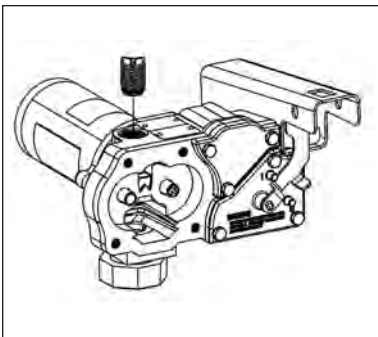

Figure 11
- From inside the housing, use a small screwdriver to push the poppet and spring through the top outlet port. (Figure 11)